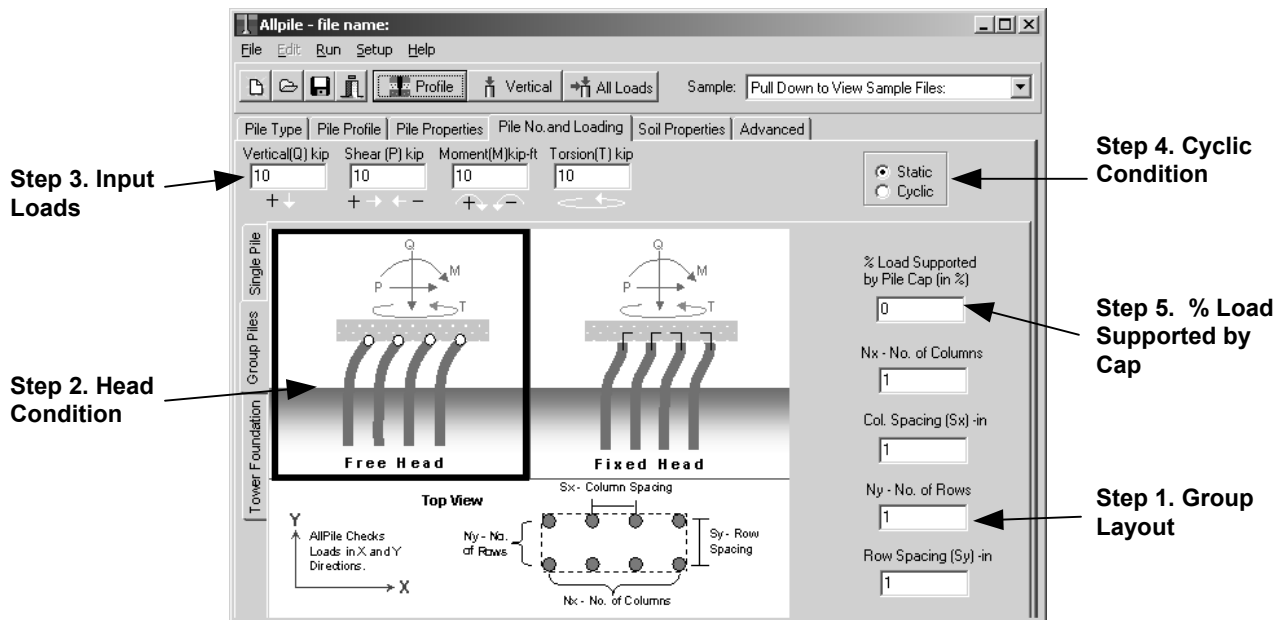

Figure 4-8. Pile No. &amp; Loading Page
Assuming the lateral load (P) is acting in X direction, as shown in Figure 4-8, the following data are required for group configuration:
The piles within a group have two possible head conditions as shown on Figure 4-8.